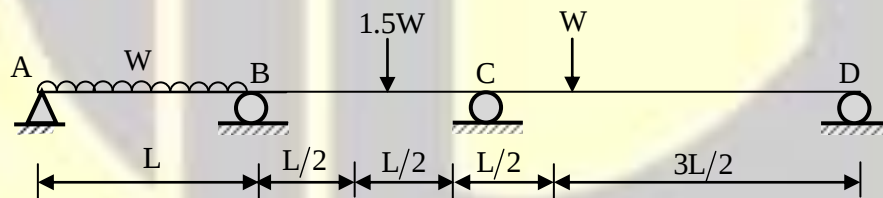

Figure 12
- (c) Determine the collapse load in a three-span continuous beam shown in Figure 12. It has a moment capacity of M_p over the exterior spans AB and CD, and $1.5 M_p$ over the interior span BC.